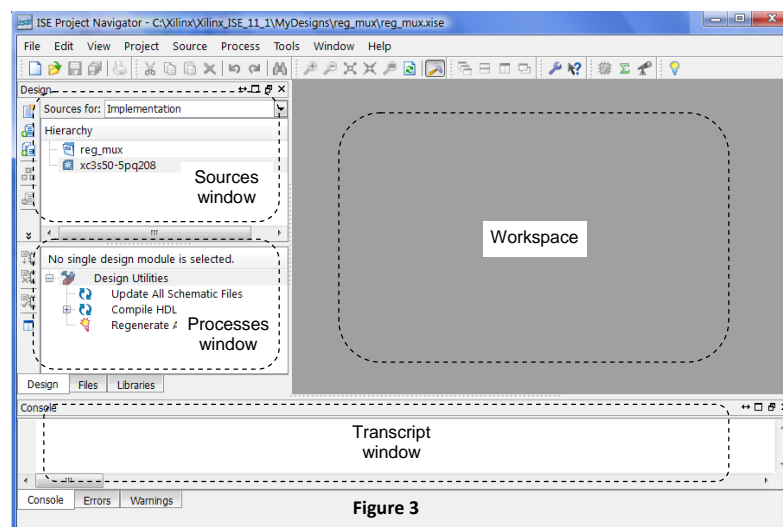

Figure 3
d) In the Device Properties dialog (figure 2b), select the device, the synthesizer (XST), the simulator (ISim – we will deal with ModelSim too later), and the language (VHDL). Click **Next** and **Finish** until the Project Navigator (figure 3) is opened.